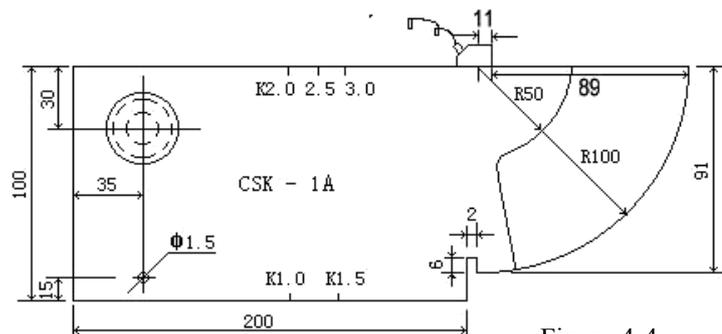
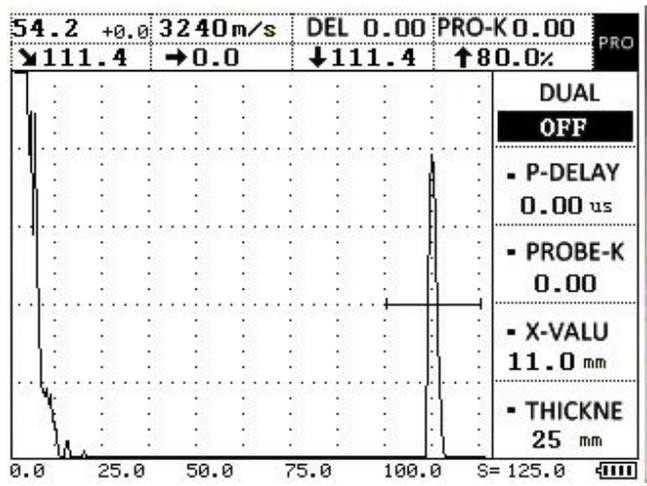

Figure 4-4
Figure 4-5
3. Calibrate the front edge of the probe: put the probe on the test block and move it till the reflector echo of the hollows of R100mm reach the highest level, measure 89mm of the front face of the probe with a ruler, at this point, the front edge value of the probe is: $100-89=11$ mm. As shown in Figure 4-4, after that, press **PROBE** to enter the probe menu, then press ▲ (up) or ▼ (down) to select the probe front edge submenu, press ◀ (left) or ▶ (right) to set the probe front edge value as 11mm, as shown in Figure 4-5.